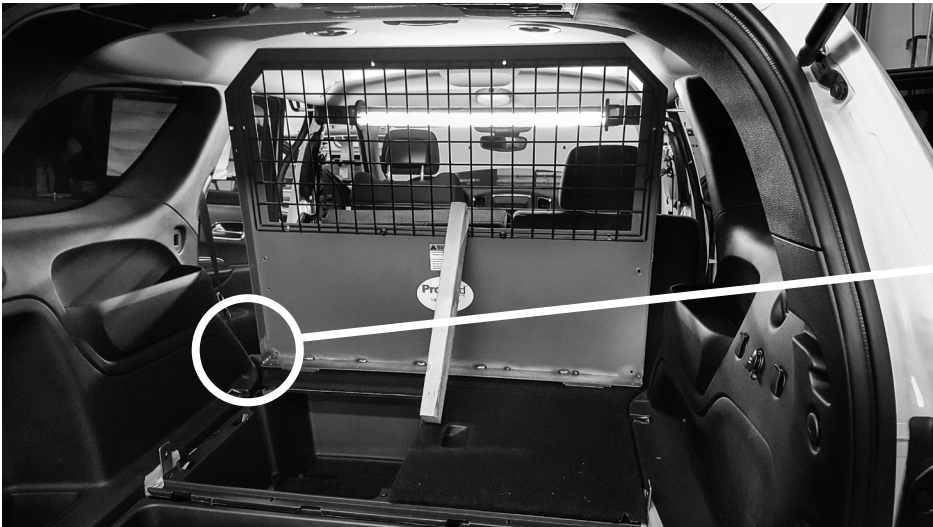

FIG. 5a
V. Install barrier (See Fig. 5a & 5b)
A. Place and center barrier using interior trim as guide. (See Fig. 5a)